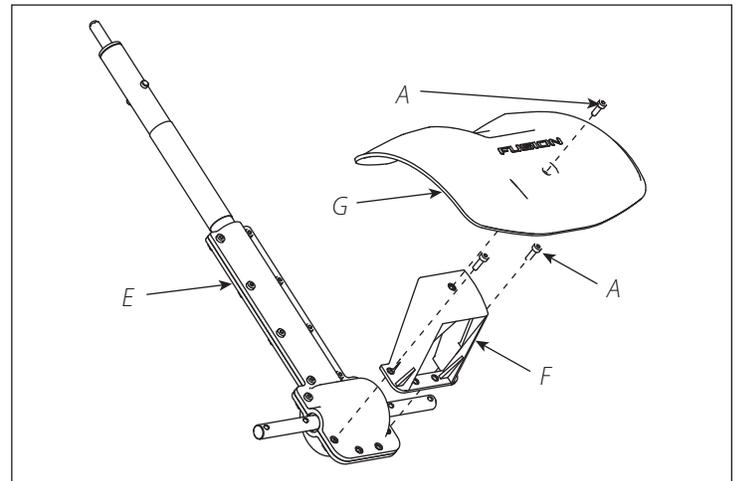

FIGURE 2
2. Assemble tine shield bracket (F) to transmission (E) with two bolts (A) and using L-wrench (B), provided in hardware parts bag. **SEE FIGURE 2**
3. Assemble tine shield (G) to transmission assembly with bolt (A) using L-wrench (B). **SEE FIGURE 2**
4. Assemble four tines (H) to transmission assembly with four hair pins (D).